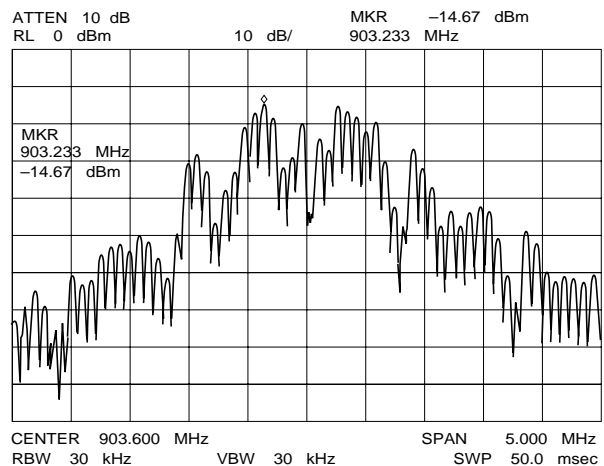

Fig. 3
- If output wave form deteriorates, side band appears like Fig. 3 and Fig. 4.